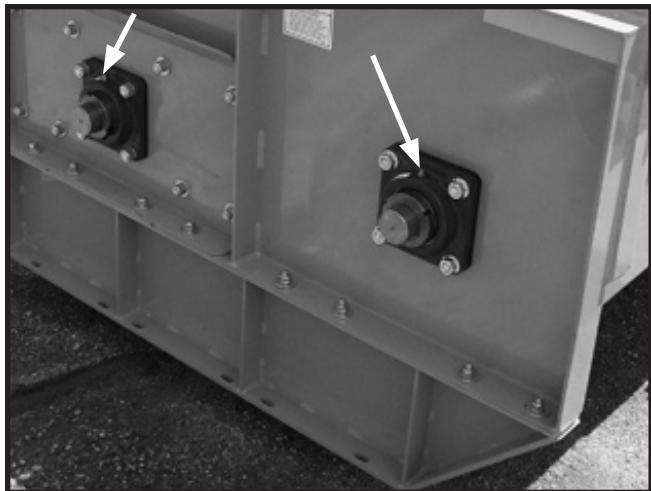

Figure 32. Auger and Rotor End Bearing Lubrication Points
2. Lubricate rotor end bearings. See Figure 32.